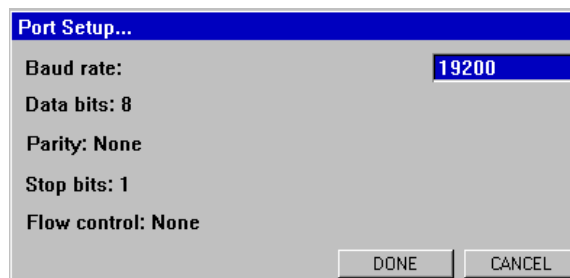

Figure 7: Port Setup
- 2) Press the rotary control knob to open the Port Setup. Refer to Figure 7: Port Setup.